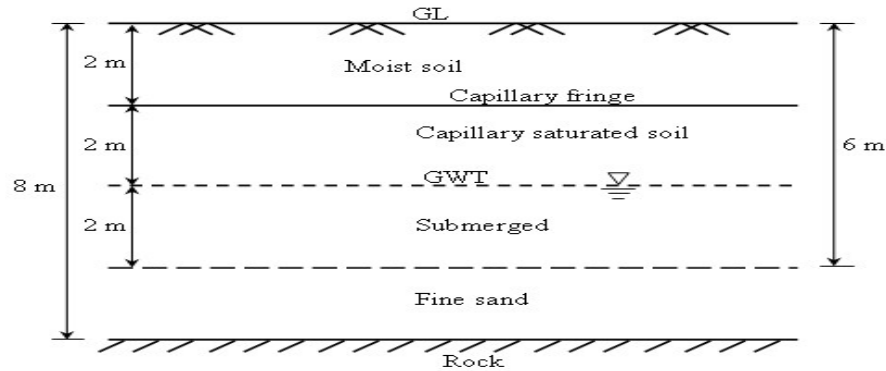

Figure 1
- (b) At a particular site (Figure 1) lies a layer of fine sand 8 m thick below the ground surface and having a void ratio of 0.7. The ground water table is at a depth of 4 m below ground surface. The average degree of saturation of the sand above the capillary fringe is 50%. The soil is saturated due to capillary action to a height of 2.0 m above the ground water table level. Considering the effect of porosity, calculate the effective pressures at fringe level, ground water table level and at depth of 6 m below the ground level [Given: $G = 2.65$].